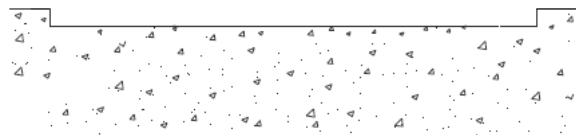
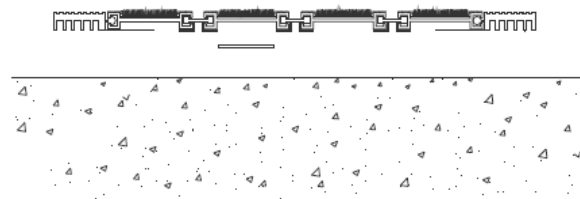

Figure 2
Figure 4
STEP 2. Provide the blockout as required (see Figure 2). The blockout may be formed at the time of the initial pour of the concrete, as recommended in item "A" under "**Precautions and Recommendations**", or the blockout may be formed at a later time by removing material from the slab. To ensure a good installation, use level and true blockout materials. The blockout is illustrated in Figure 4.
STEP 7. Select the flexible lock strips. Peel the backing from the flexible strip portion of the fastener, and press the strip onto the bottom of the mat tread (see Figure 4). Ensure that the strip will not interfere with the perimeter of the mat.